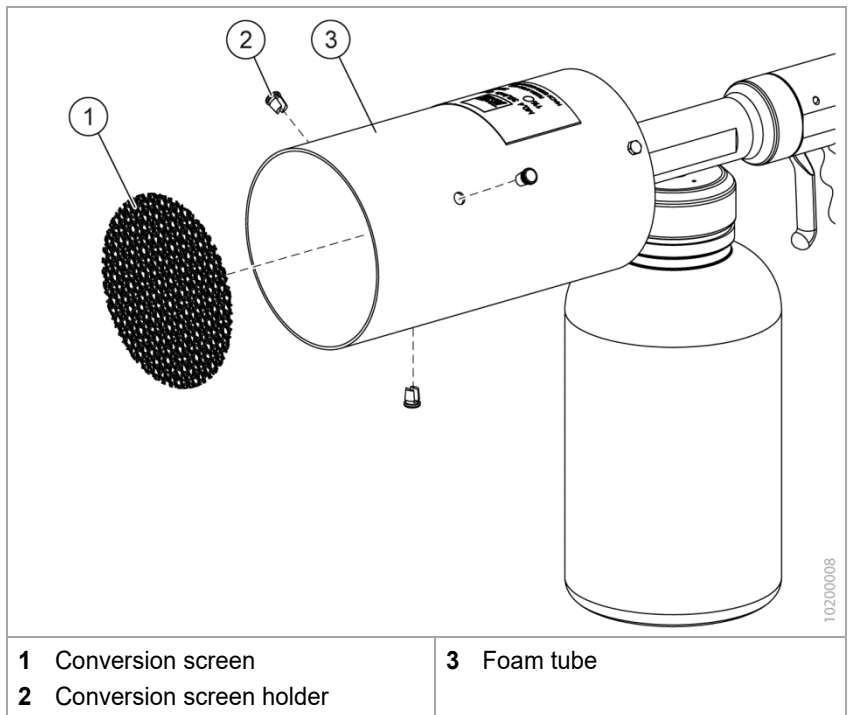

Fig. 3 Replacing the conversion screen
1. Using pliers, pull the three plastic holders (Fig. 3/2) out of the foam tube (Fig. 3/3).
2. Remove the conversion screen (Fig. 3/1) from the foam tube.